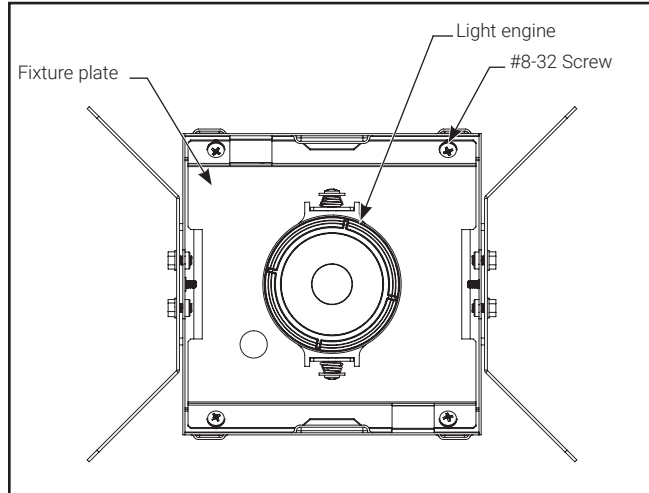

Figure 10.
6. Fix fixture plate to housing with #8-32 thread forming screws. Ensure wires do not get pinched along the edges of the plate and tilt up. Once connections are made, push up the light engine with fixture plate. (Figure 10)